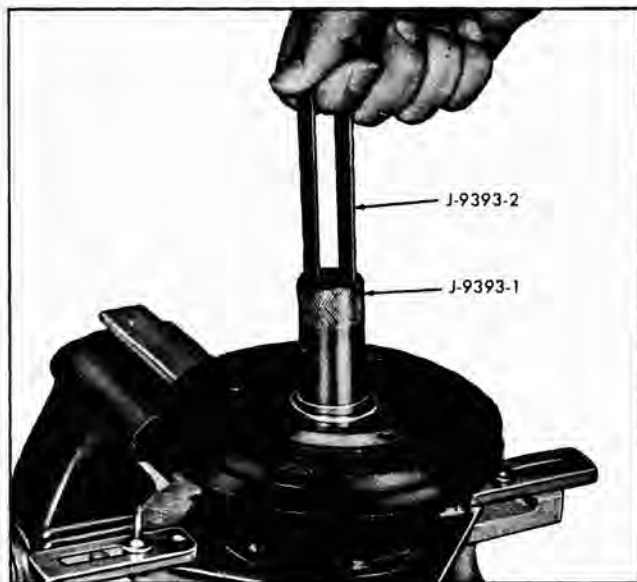

Fig. 6-35 Removing Shaft Seal Seat
4. Remove shaft seal seat, using J-9393-1 and 2 to grasp flange on seal seat (Fig. 6-35). Pull straight out at end of tool to remove seal seat.